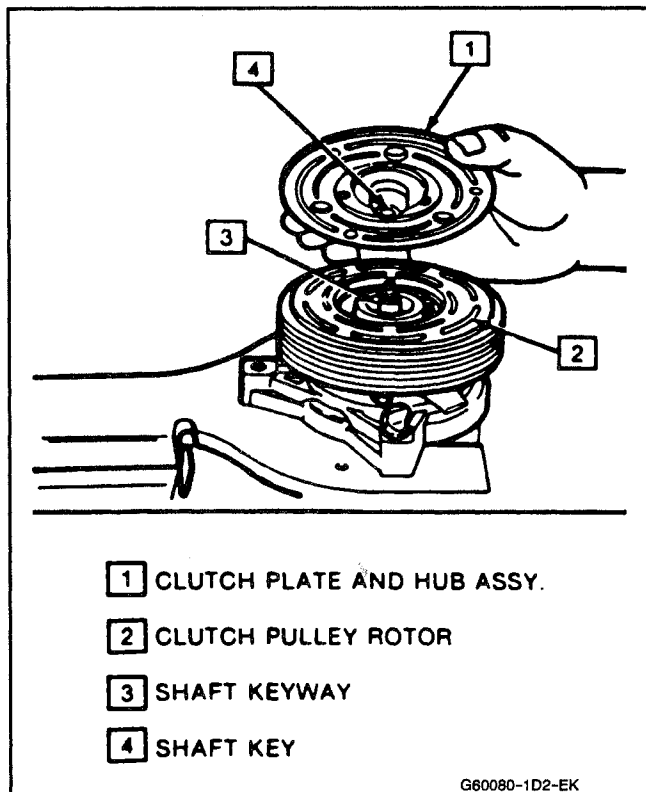

Fig. 4 Shaft Key, Clutch Plate/Hub Installation
1. Install the shaft key into the hub key groove (Fig. 4). Allow the key to project approximately 3.2mm (1/8") out of the keyway. The shaft key is curved slightly to provide an interference fit in the hub key groove.